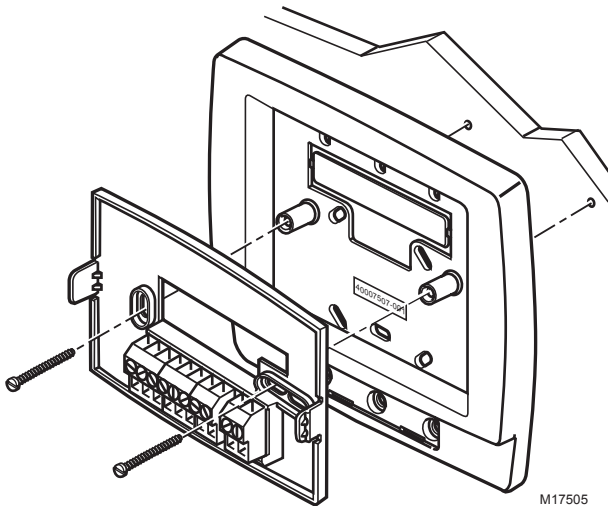

Fig. 2. Mounting the vertical junction box adapter plate
Any T6570, T8570 series thermostat can be mounted directly on the wall on a 65x65mm junction box, or a 2"x4" horizontal junction box. An optional adapter plate is available for mounting on a 4"x4" or vertical junction box. (See Fig. 2) Mounting screws are supplied for alternatives.
3. Locate wallplate in the horizontal mounting position. See Fig. 2 if using the vertical junction box adapter plate.